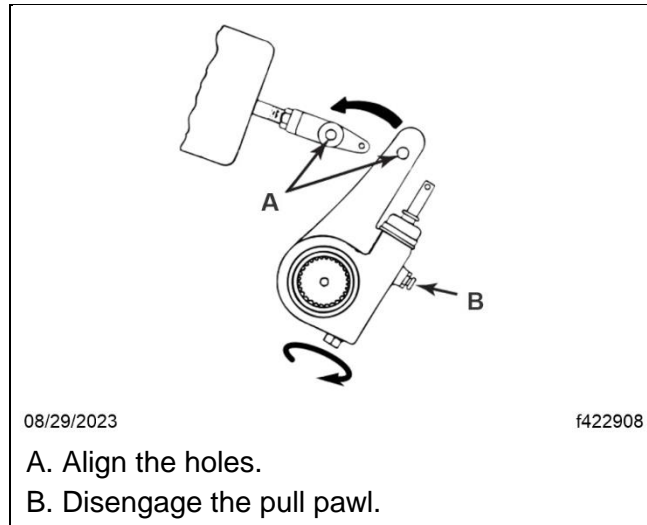

Fig. 5, Rotating the Automatic Slack Adjuster
11. Turn the manual adjusting nut on the bottom of the automatic slack adjuster with a 5/16-inch wrench until the adjuster arm rotates into the clevis with the large holes in the adjuster arm and the clevis aligned. See Fig. 5. Damage will occur if the nut is rotated without the pull pawl being disengaged.